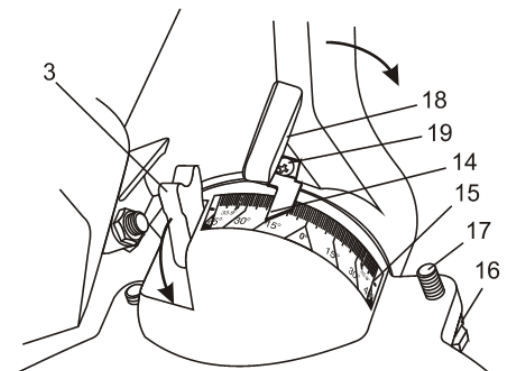

Fig. 14
1. Rotate the 0° bevel stop (3) toward you so it nests into the casting (Fig. 14).
3. Rotate the cutting head clockwise until the bevel indicator (14) is pointing directly to the 45° mark (15) on the bevel scale.
5. Adjust the right hand 45° bevel stop by loosening the lock nut (16) and moving the cap screw (17) in or out as required then tighten the lock nut while holding the cap screw with a 13 mm wrench.